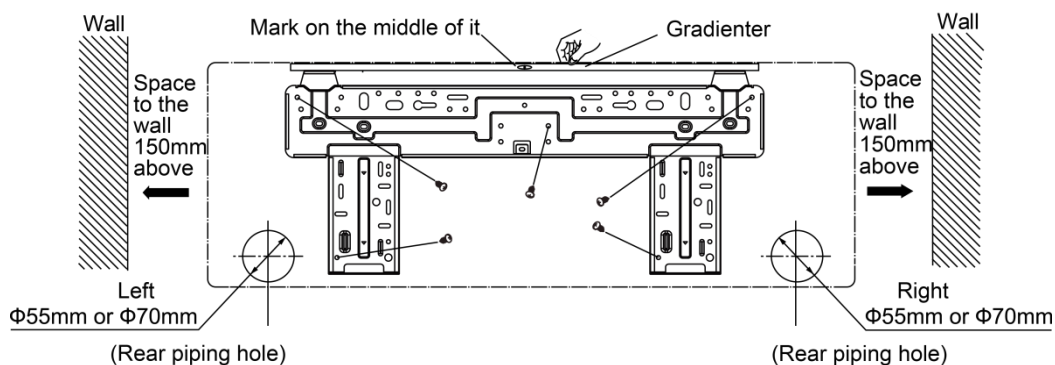

Fig 4.2
- ① Find the horizontal position by the seton method; since the drainage pipe is on the left side, it is necessary to adjust the rear panel to make its left side a little bit lower.
- ② Fix the rear panel on the wall by bolts.
- ③ After installing the rear panel, pull it by hands to check if it is secured enough. The hang panel should support the weight of an adult (60kg), and the weight shared by every bolt should be fairly even.
- ④ The diameter showed in Fig.4.2 is 65mm.
- (1) Make the piping hole (Φ 65mm) in the wall at a slight downward slant to the outdoor side. The center of the hole should be determined referring to Fig.4.2.
- (2) Insert the piping-hole sleeve into the hole to prevent the connected piping and wiring from being damaged when passing through the hole.